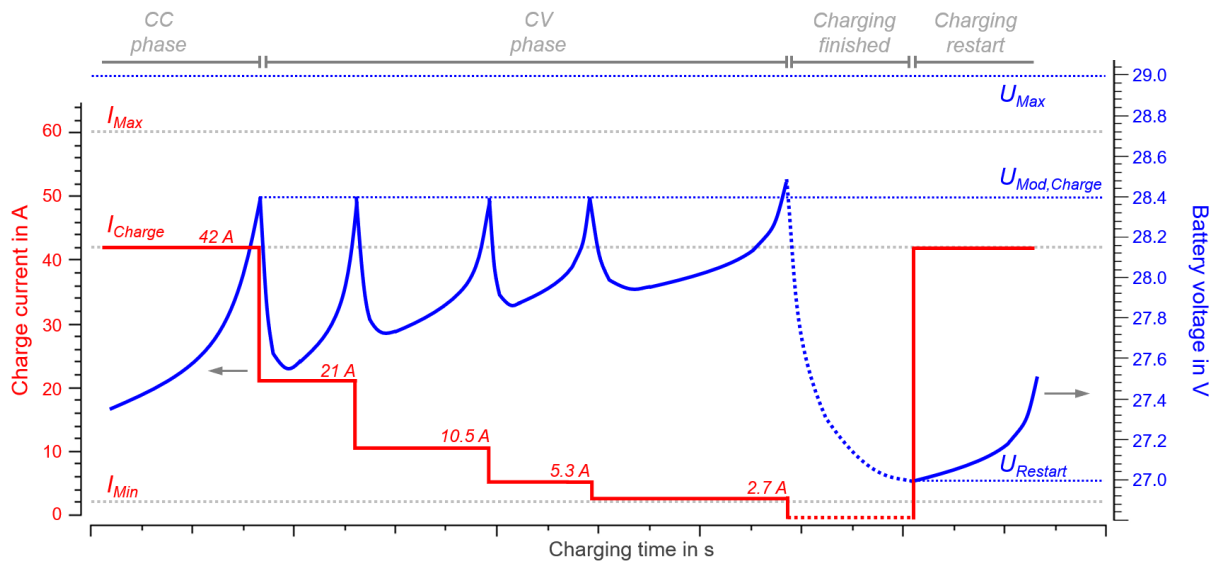

Figure 4: Illustration of charging characteristics of an etaSTORE Type B battery in automatic configuration.
The charger will automatically configure the charging parameters when the CAN bus of the mobile electronics is connected to an etaSTORE Type B battery system. The charger will then automatically deliver the maximal allowed charge current per module at any given time during the charging process, considering the module temperature, current and voltage. Charging automatically starts in the standard CC charging phase, followed by the charging end phase similar to a standard CV phase (see Figure 4). During the CV phase, the module current is halved every time the module voltage reaches 28.4 V, down to 2 A per parallel module. The maximum charging current can be limited by setting I_{Charge} , statically or dynamically (see Section 1.2.3.2). If other charging parameters are required, then the BMS Type should be set to "No external control" (static mode) and the parameters entered manually.
- ▶ CV phase: If the maximum battery module voltage U_{Mod} or cell voltage U_{Cell} exceeds a defined threshold ($U_{\text{Mod}} \geq U_{\text{Mod,Charge}} = 28.4 \text{ V}$, $U_{\text{Cell}} \geq U_{\text{Cell,Charge}} = 3.6 \text{ V}$), the average module current is halved. The current decimation repeats until the average module current falls below 3 A at which the charger keeps charging until the battery enters the fully charged state (see Figure 4).